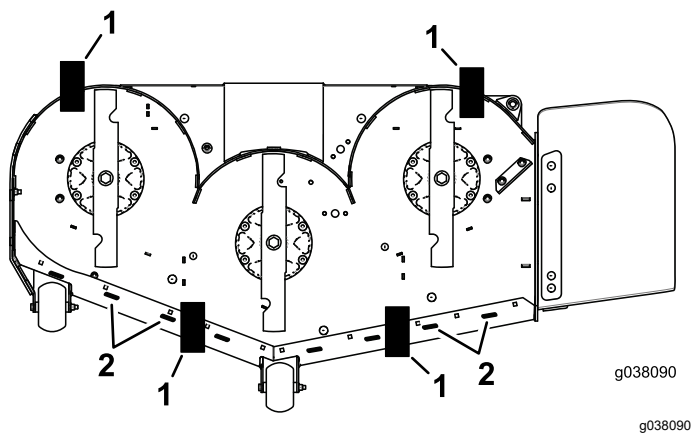

**Figure 97**
- B. Slowly loosen the adjusting screw on the lift-assist spring until you can remove the screw (see Figure 97).